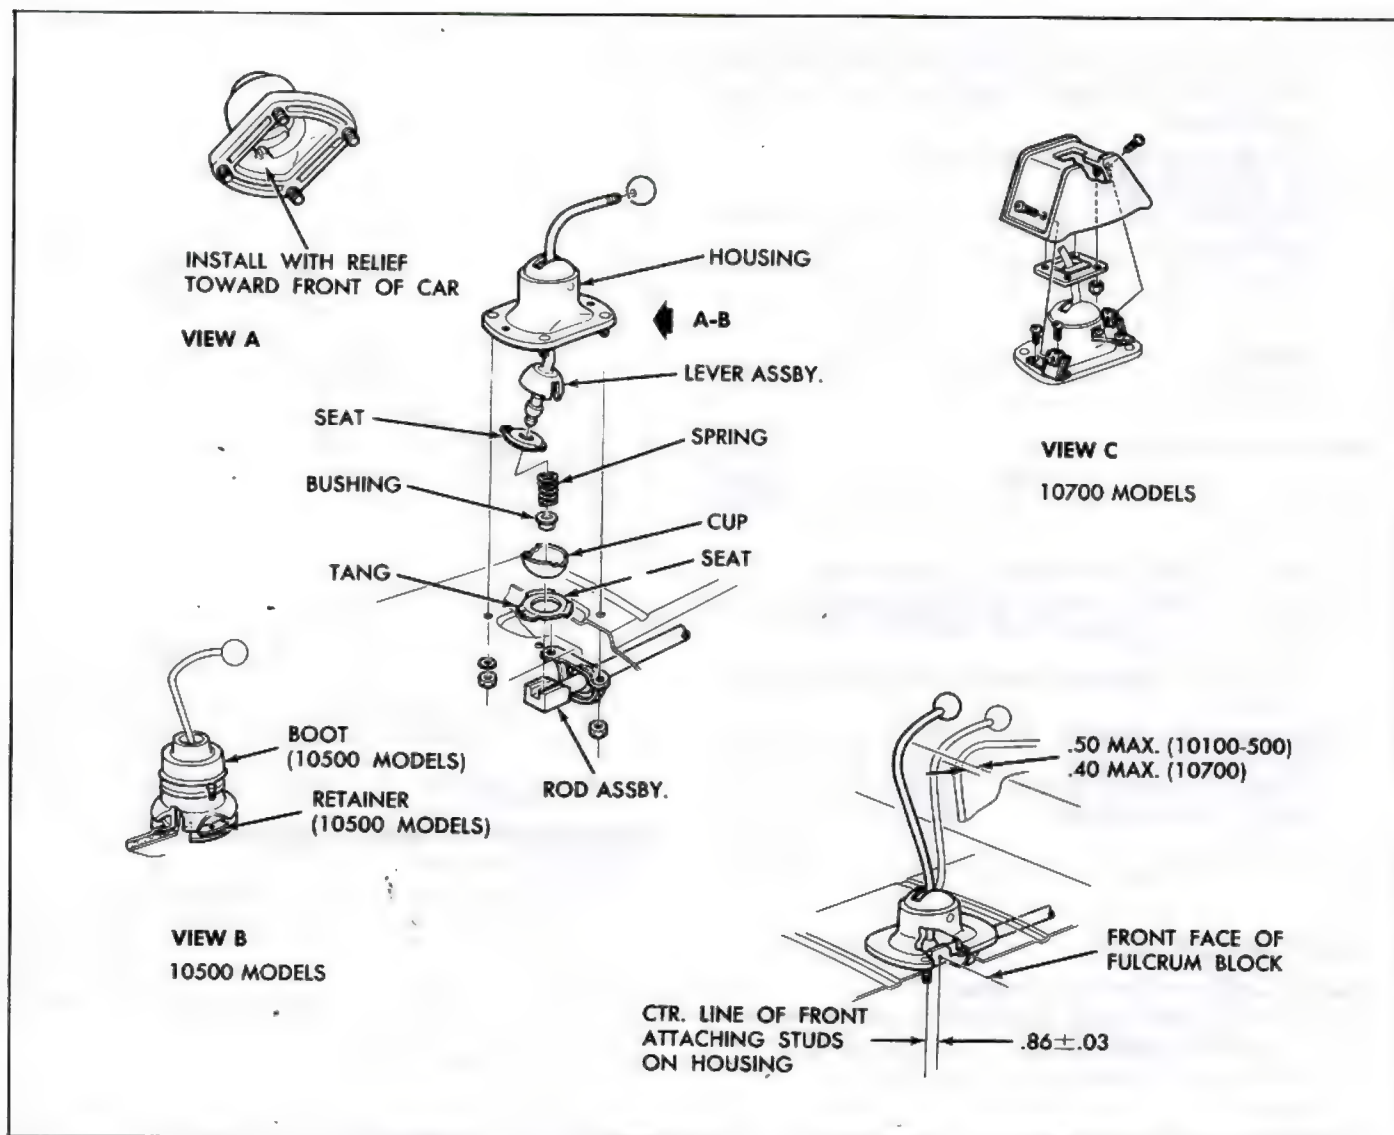

Fig. 7A-2—Gearshift Lever Assembly—Exploded View
2. Shift the transmission into the gear range used for checking control lever positioning. See illustration (fig. 7A-2).